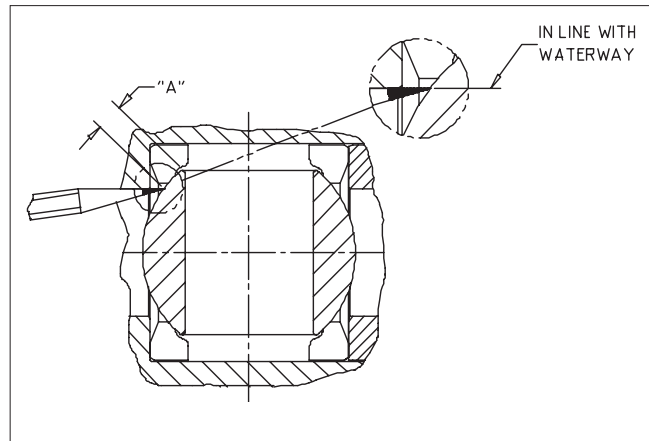

Figure 6 Correct Ball Position
**Valve Close Position:** With the valve in the closed position (actuator is against the “CLOSE” travel stop), make a pencil mark on the ball at the 9:00 o'clock and 3:00 o'clock locations as shown in (**Figure 6**). Open the valve part way, and measure dimension “A”. This measurement should deviate no more than  $\pm 1/32$  inch ( $\pm 0.8$  mm) from the value given in (**Table 8**) for all valves.